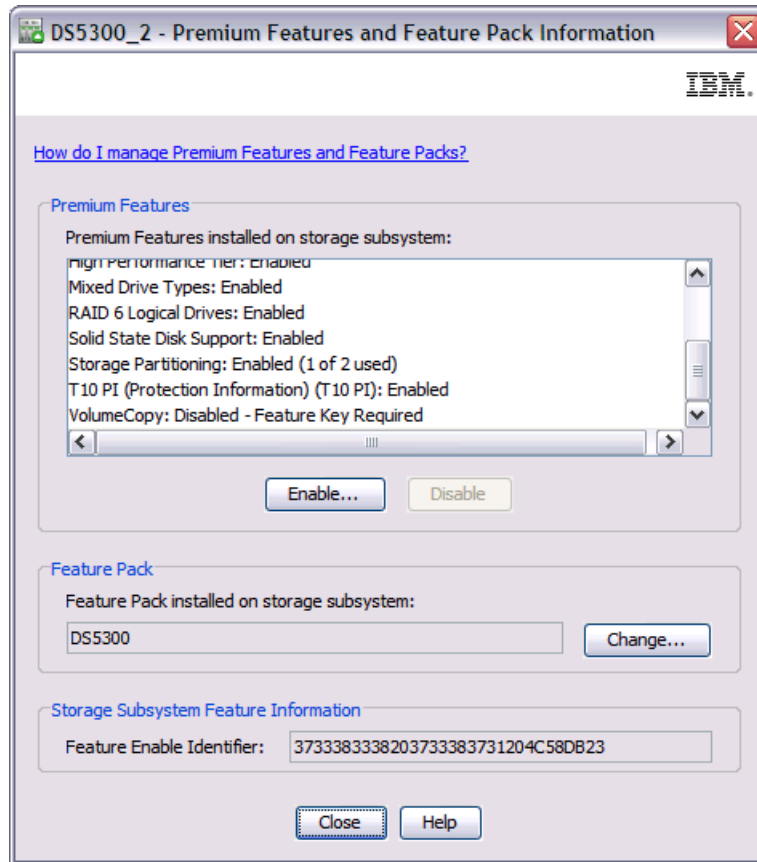

Figure 5-34 Enabling a premium feature
7. Once you have received the key file, go to Storage Manager and select **Storage Subsystem** → **Premium Features** in the Subsystem Management window to open the premium feature info, as shown in Figure 5-34.